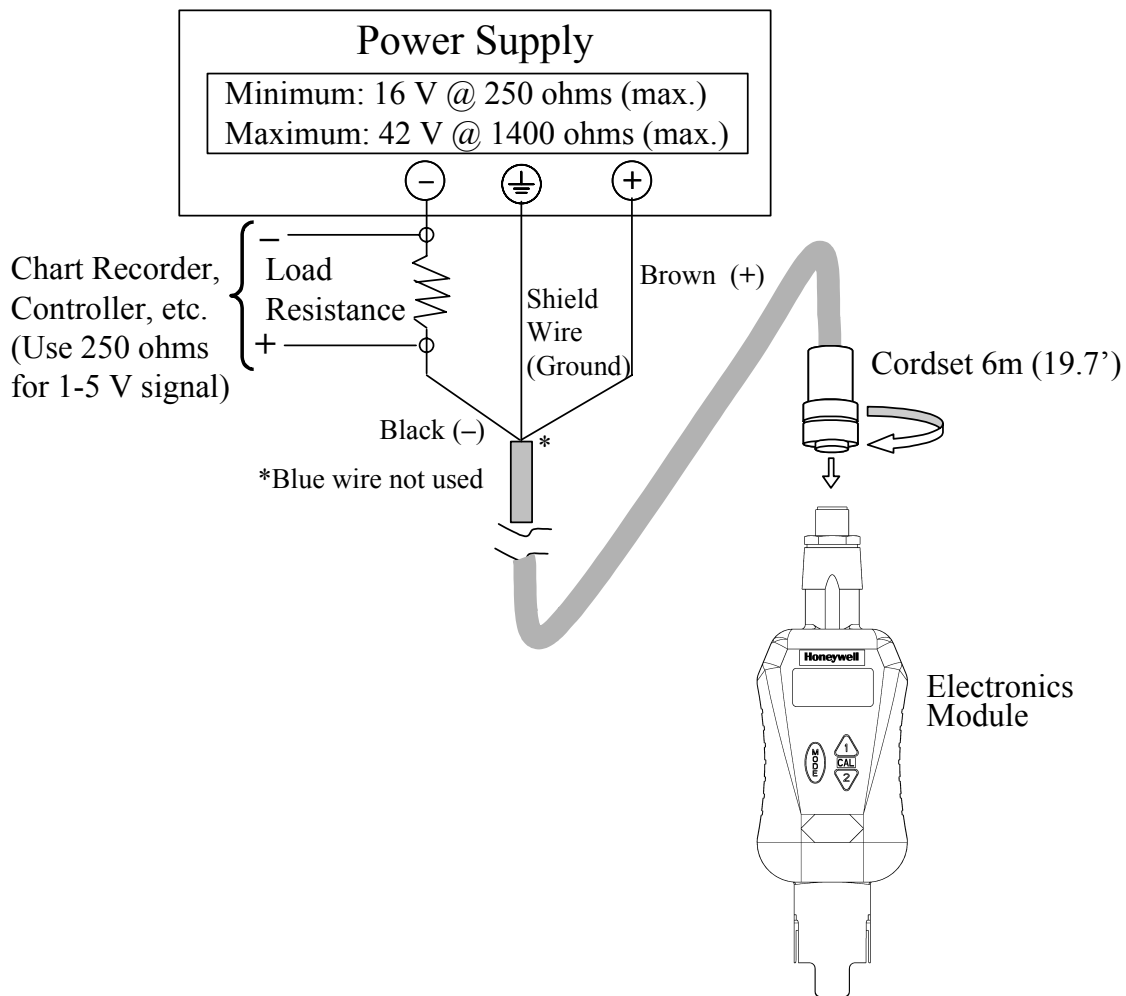

Figure 2-1 Cordset Connection and Wiring
- 1) Cordset. See Figure 2-1.
5	Connect cable to power supply Wire the other end of the Output cable to a 16-42 Vdc source as indicated in Figure 2-1. Note: your wire colors may be different.